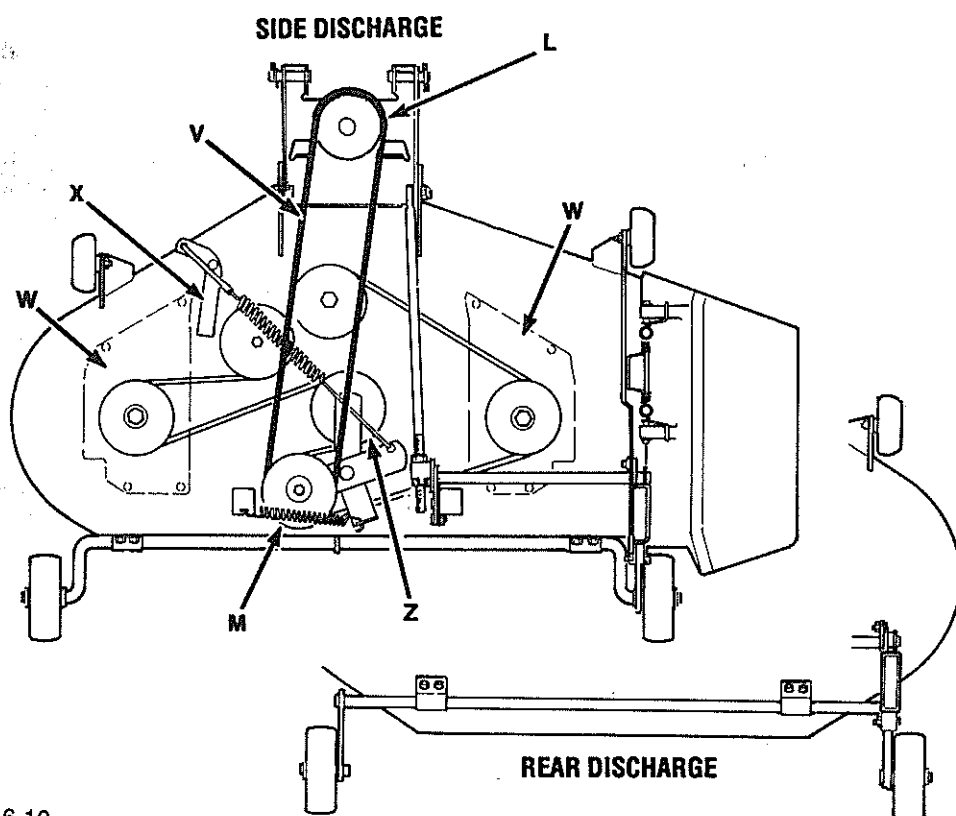

Figure 6-10
- Relieve belt tension by turning lever (X, Figure 6-10) clockwise.
- Remove mower drive belt (V) from the PTO sheave (L).
- Remove the drive Belt (V). (See DRIVE BELT REMOVAL)
- Remove belt covers (W).
- Rotate idler (Z) and remove belt.
- Install belt onto sheaves and pulleys as shown in Figure 6-10. Install belt covers (W).